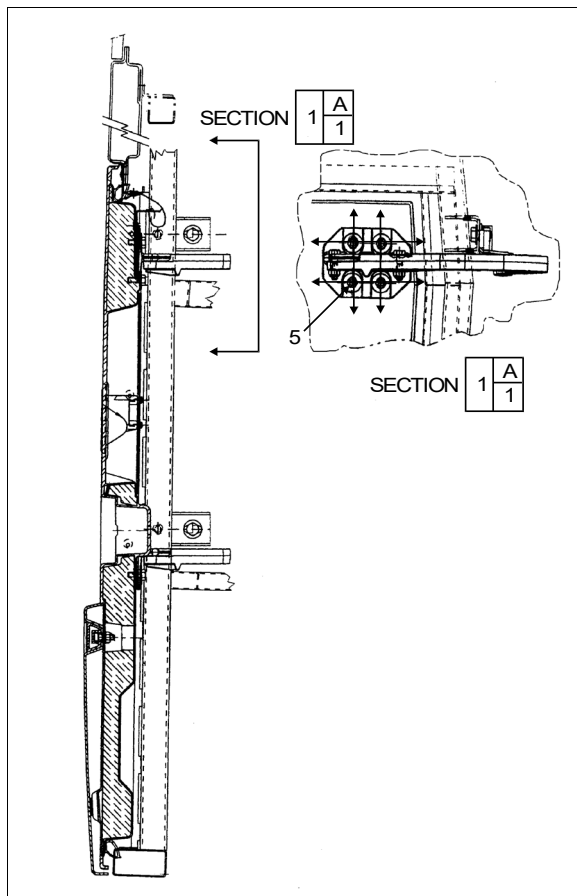

FIGURE 73: FRONT SERVICE DOOR
7. Loosen screws (5, Figure 73) to allow the door to be shifted "UP or DOWN".